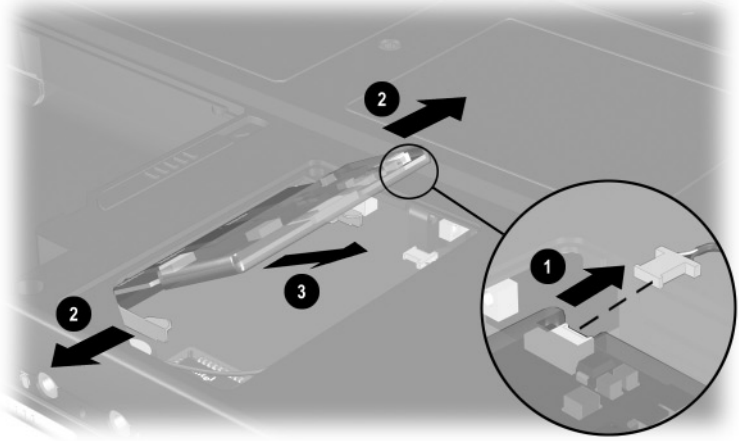

Figure 5-8. Removing the Mini PCI Communications Board
6. Disconnect the modem cable from the mini PCI communications board ❶ (Figure 5-8).
7. Spread the retaining tabs ❷ to release the mini PCI communications board. The board tilts up at a 45-degree angle.
8. Remove the board by pulling it away from the connector at a 45-degree angle ❸.